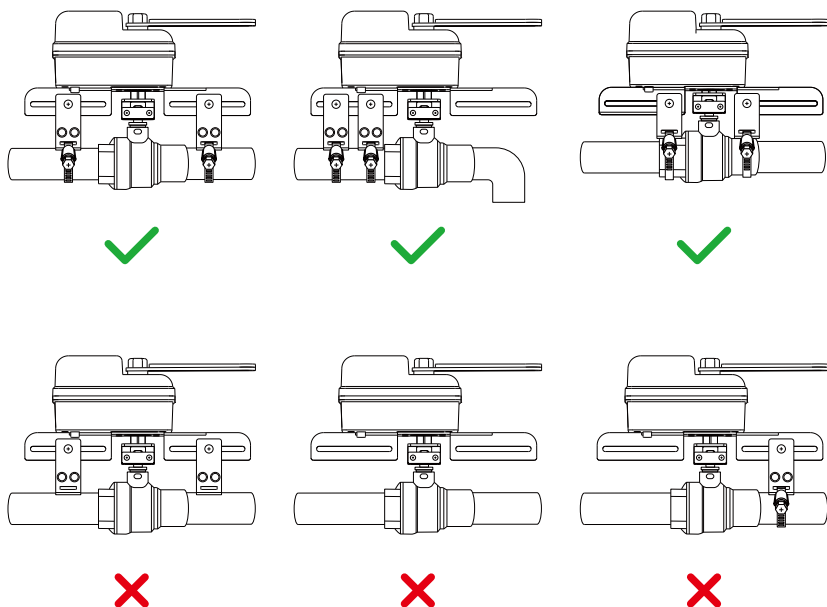

Figure 3
4. The brackets provide stability for the EVO Valve operator while in operation, and they can be installed in one of numerous configurations as shown in Figure 3. Ideally, one bracket will be installed on each side of the valve, and as far apart as possible, but if your application does not permit this, both brackets can be installed on one side. Select the short or long bracket that fits best. If a bracket is too big to fit at the location, use the small bracket.